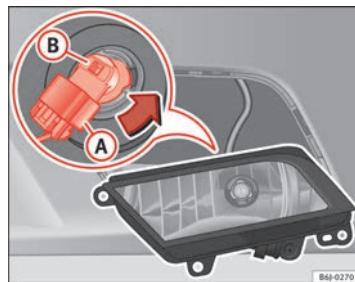

Fig. 168 Fog lights
- Extract the connector ⇒ fig. 168 **A** from the bulb.
- Rotate the bulb holder ⇒ fig. 168 **A** to the left and pull.